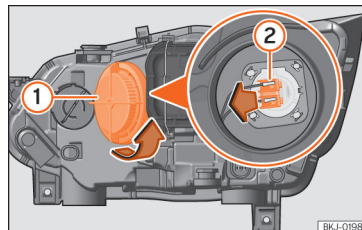

Fig. 52 In the engine compartment: main beam headlight bulb.
- Turn the cover ① anti-clockwise and take it out >>> **Fig. 52**.
- Remove the bulb connector ② by pulling it outwards.
- Fit the bulb connector ②.
- Fit cover ①, turning it towards the right.